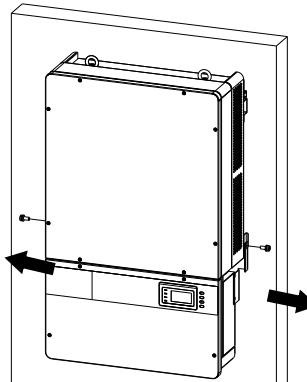

Figure 6.3 - Remove the Screws on Both Sides
(3) Standby mode, as shown in Figure 6-3: